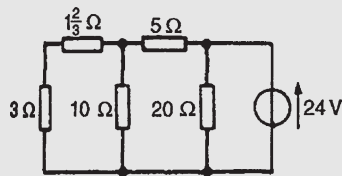

Figure 13.45
**Problem 11.** Use Thévenin's theorem to determine the current flowing in the 3 Ω resistance of the network shown in Fig. 13.45. The voltage source has negligible internal resistance.
(Note the symbol for an ideal voltage source in Fig. 13.45 – from BS EN 60617-2: 1996, which superseded BS 3939-2: 1985 – and may be used as an alternative to the battery symbol.)